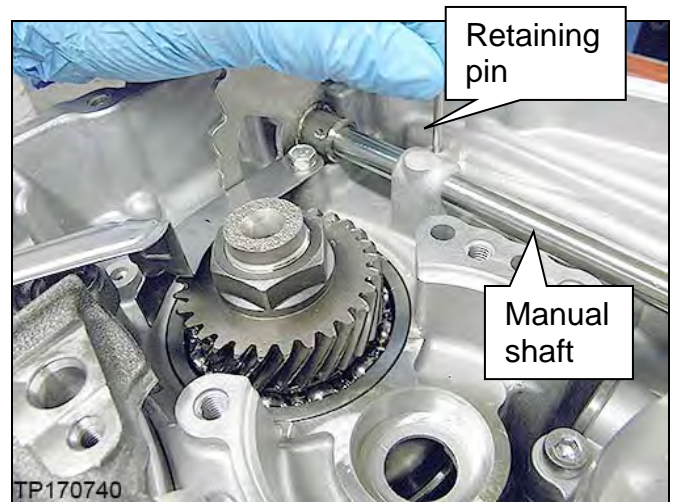
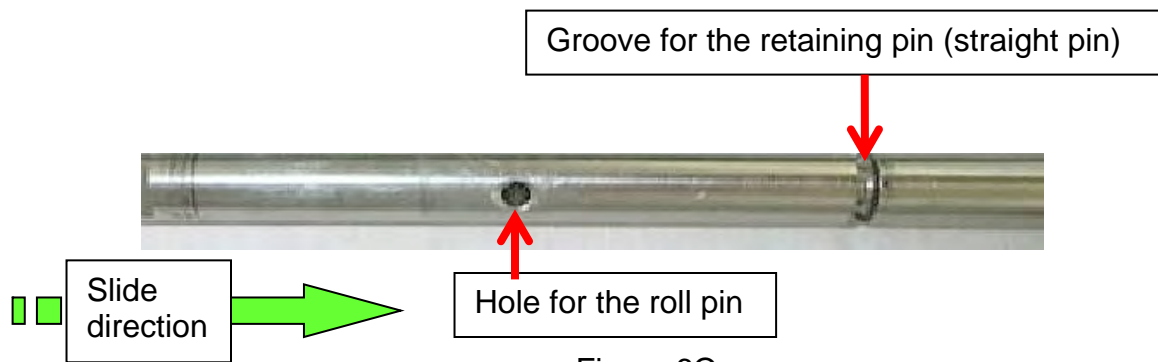

Figure 5Q
Figure 6Q
6. Install the original retaining pin as shown in Figure 5Q.
- Align the manual shaft groove (Figure 6Q) to allow the retaining pin (Figure 5Q) to go through completely.